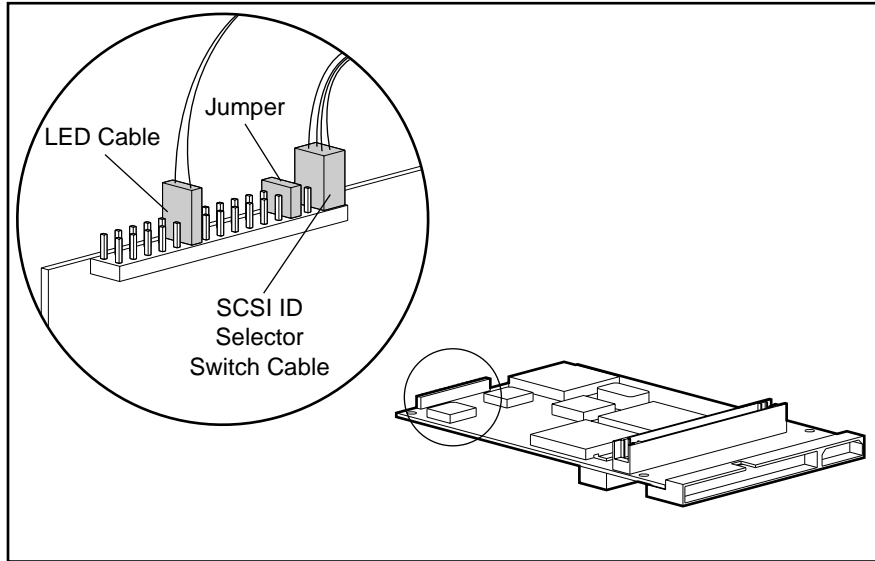

Figure 4-4. SCSI Interface ID Connector/Fault LED Connector
①	Host SCSI Bus Connector
②	Power Connector
③	CD-ROM Drive SCSI Bus Connector
④	SCSI Interface ID Connector /Fault LED Connector (See Figure 4-4)